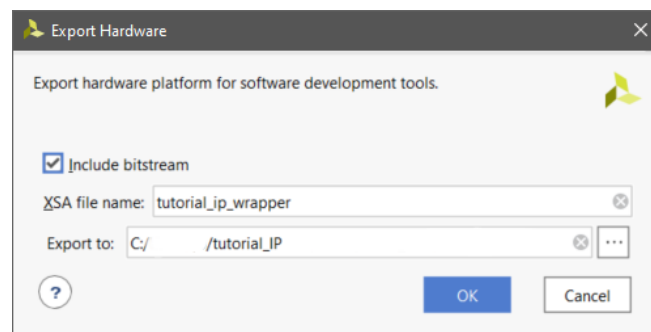

Figure 14
2. Check the box to **Include Bitstream** and click **OK** (Figure 14)